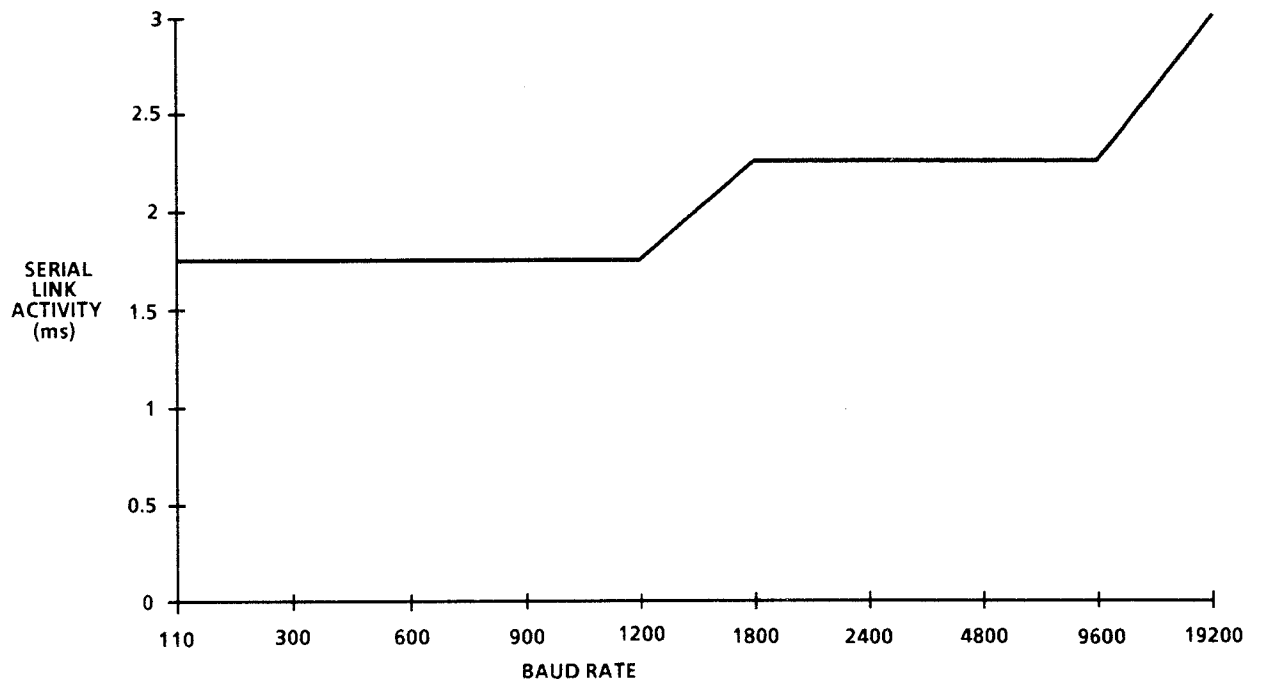

Figure 2.5 Serial Link Activity versus Baud Rate
(6) T_c = Communications - time taken by serial link activity. This increases with the Baud rate of the serial links and can be found by consulting Figure 2.5. The figures in the graph were obtained by connecting two ports back to back and continuously exchanging 32 data tables, and represent a worst case.
(7) T_f = Special Functions - total time taken by all special functions used in the ladder program excluding those in (1) and (2). The execution times of the Special functions differ considerably and can be calculated by summing the individual times given in Table 2.1.